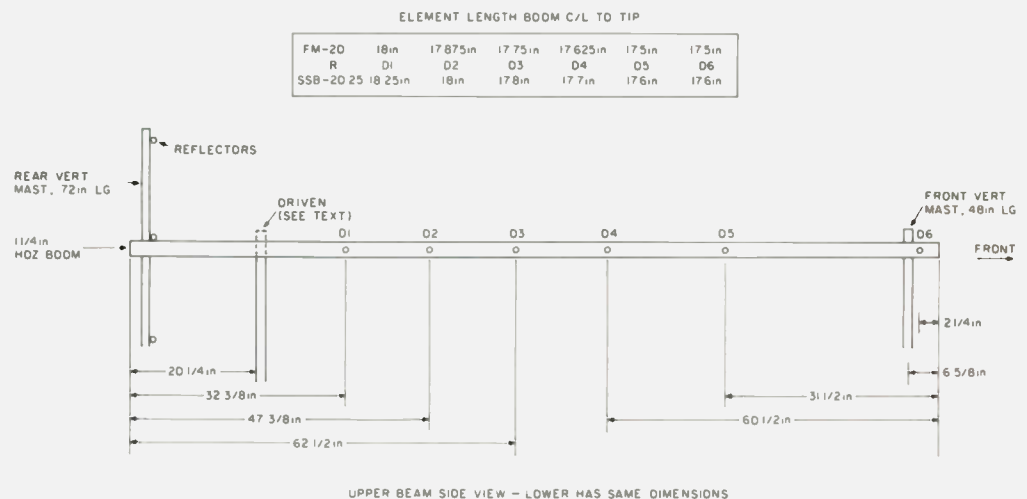

Fig. 2.
The next step is to assemble the elements onto the booms where they belong. Mark off the upper and lower booms, as in Fig. 2. Make the marks exactly along the top centerline of each boom, and you will save time later. Make the marks and the centerline imaginary Xs, and, where they occur, drill small starting holes for the self-tapping screws (item 16f). There are holes in the element clamps (item 1). At each of the starting holes